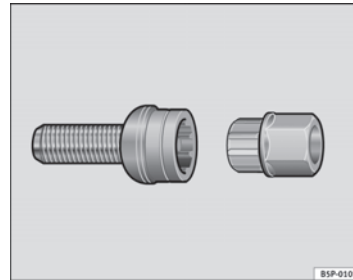

Fig. 139 Anti-theft wheel bolt
- Insert the adapter onto the wheel bolt and push it on as far as it will go → Fig. 139.